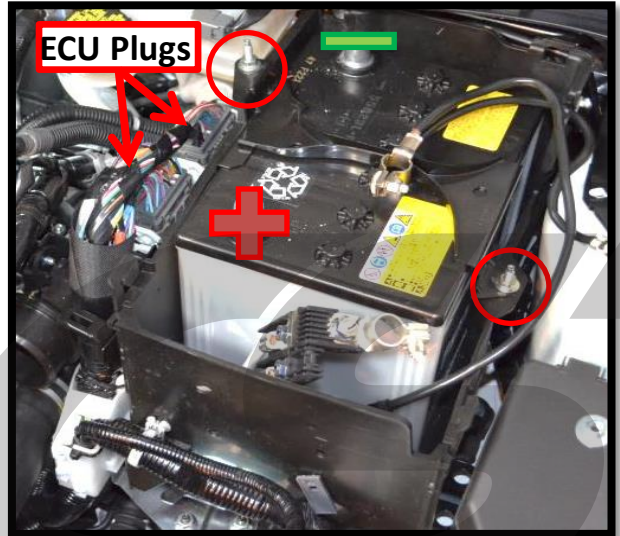
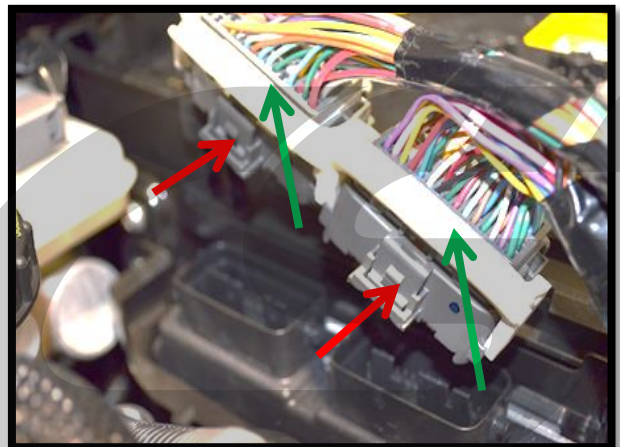

Figure 2b
Figure 2d
- b) **Disconnect the battery.** Disconnect the battery terminals with a 10mm end wrench. Refer to **Figure 2b** for negative (-) and positive (+) terminals. Disconnect the negative terminal of the battery first, then the positive terminal (**Figure 2b**).
- c) **Remove the two 10mm nuts for the battery tie down bracket** (shown with **red circles** in **Figure 2b**).
- f) **Disconnect the ECU plugs** by pushing on the tabs (**red arrows in Figure 2d**) and pulling the white lock upward simultaneously (**green arrows in Figure 2d**). Refer to **Figure 2b** for location of ECU plugs and **Figure 2d** for close ups.